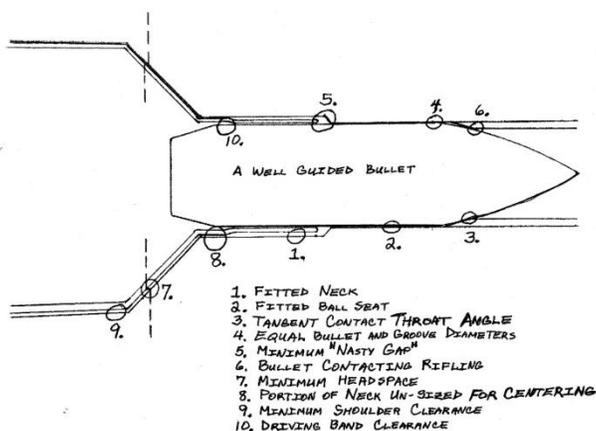

FIGURE 2. FEATURES OF THE LONG RANGE ACCURACY SYSTEM
As shown in Figure 2, we are employing in this design both (1) a “*fitted neck*” and (2) a “*fitted ball seat*” so that there will be the *least possible clearance* around each end of the bullet body when it is held in the firing position. Together, these